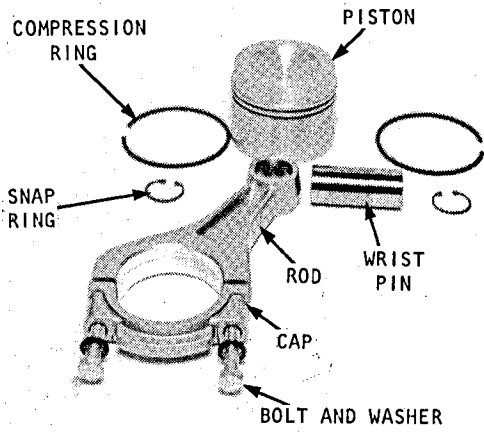

Figure 29
3. Work the piston rings out of their grooves and off the piston. Figure 29 illustrates the piston and connecting rod components.